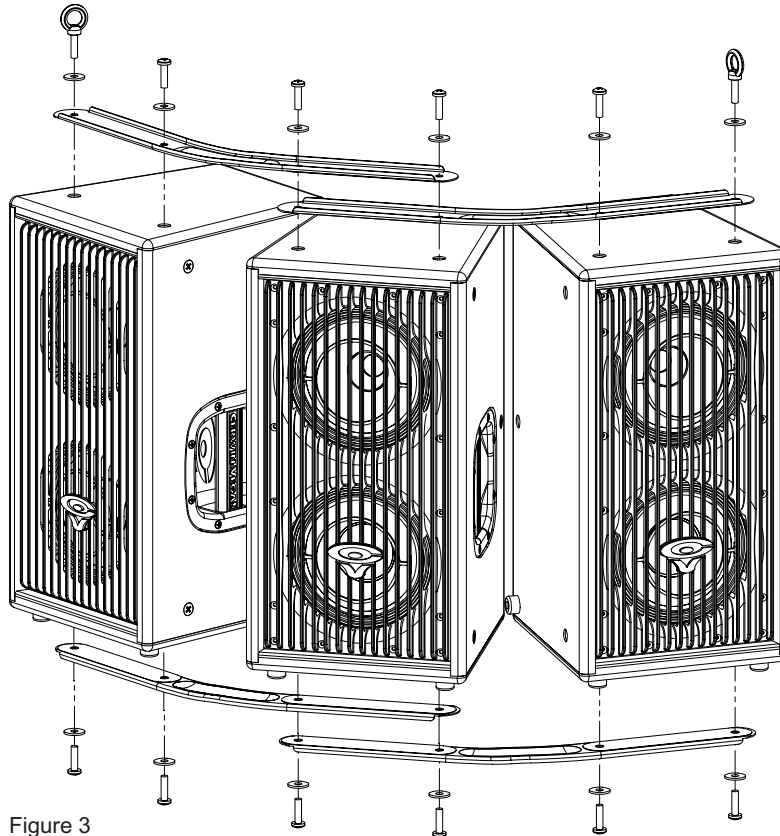

Figure 3
1. Analyze the following illustration. (Figure 3)